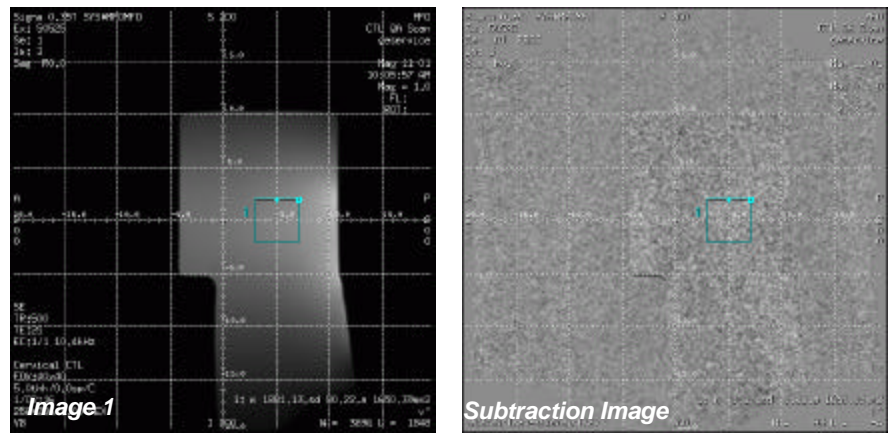

Figure 20: Cervical CTL images.
3. Refer to channel images shown in *Figures 20* through *22*.
SNR is calculated for individual modes at the slice location. For the signal measurement, choose a ROI following the examples shown in *Figures 20, 21* and *22*.